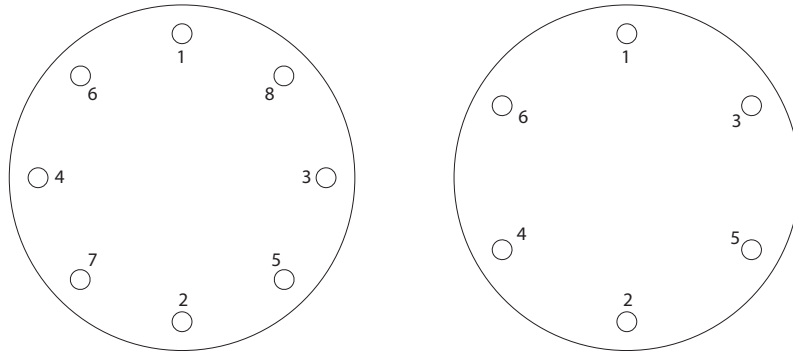

Figure 2
8.3 Tighten all screws in incremental steps in the order shown in *Figure 2*.